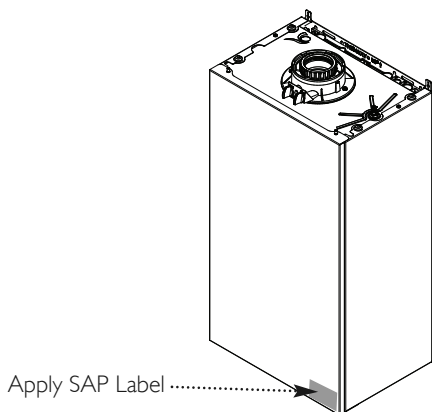

Fig. 12
5. Apply the SAP label to the boiler (Fig. 12) and continue with the installation and commissioning procedure.